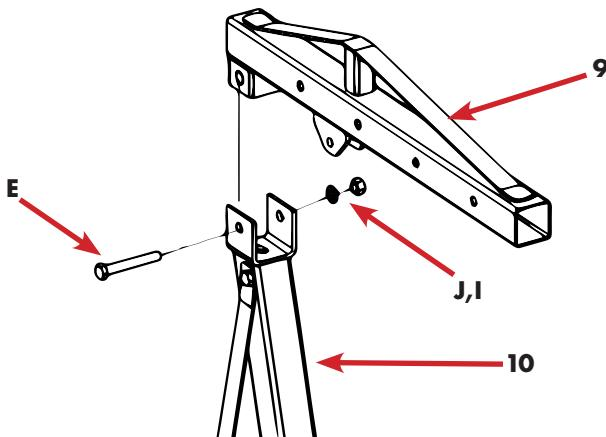

fig.13
- Mount the support arm on the top of the spar as shown in fig.13.
Legend Figure 13 (see also from page 15, Figure 2 and Table 1)